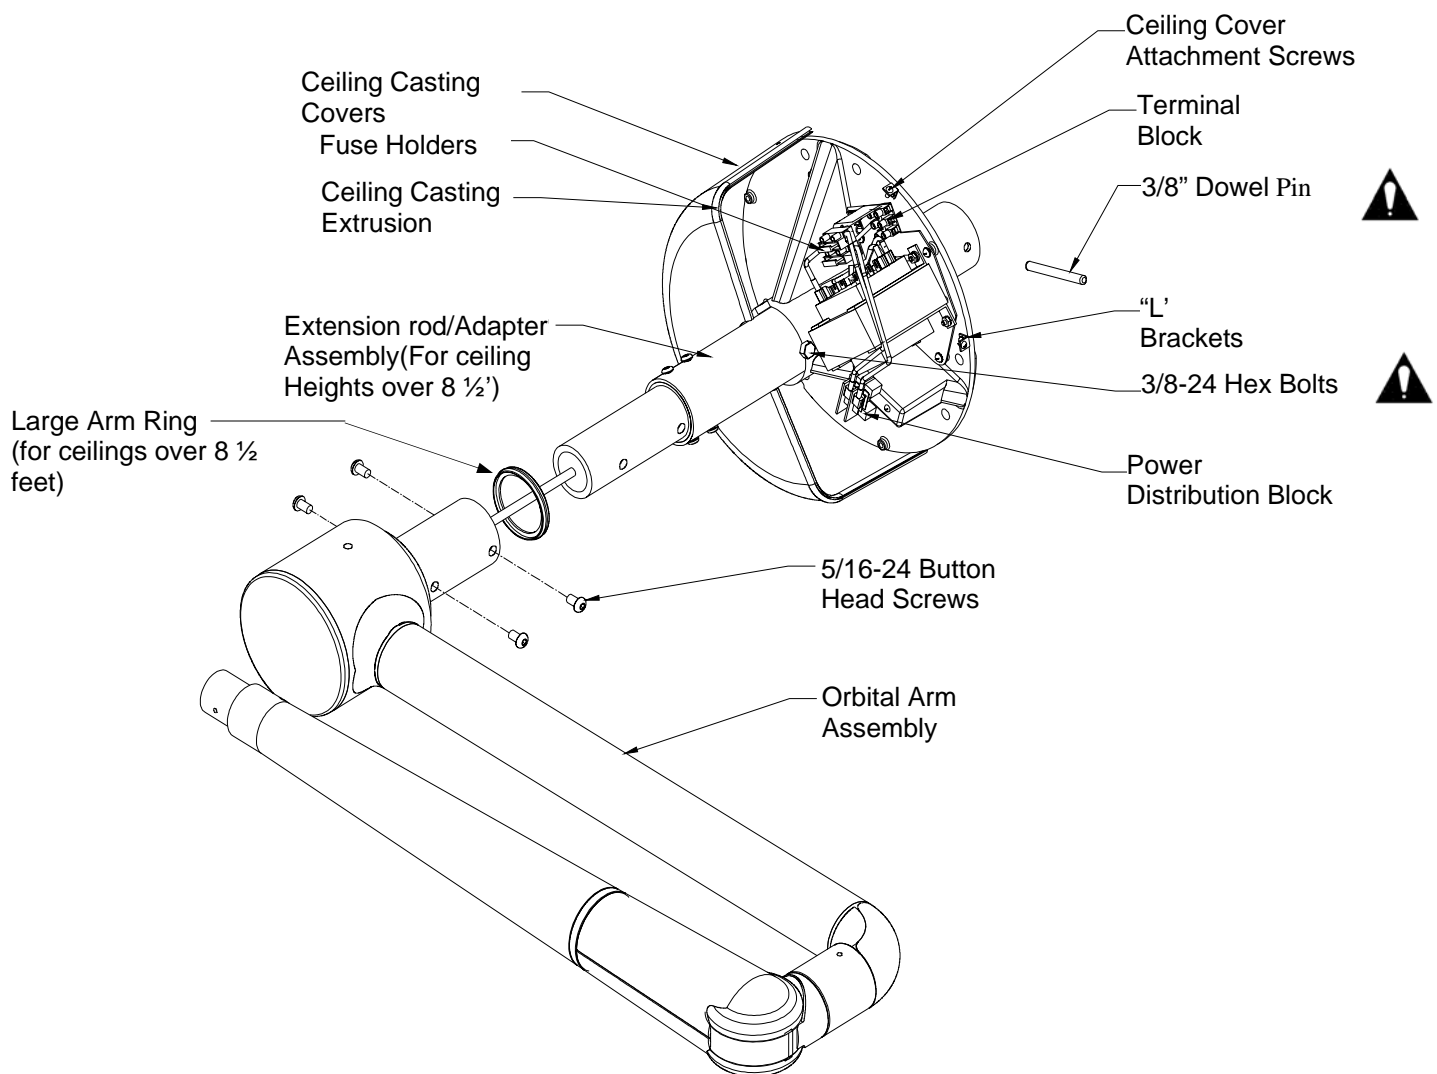

Figure 16-Solo Ceiling Mount (Orbital)
- With the ceiling casting laying on the floor or on a bench, slide the arm assembly into the hole in the ceiling casting in the direction shown in Figure 16. Push the rod through the casting exposing the hole at the end of the rod. Make sure to route the cable from the arm assembly to the ballast assembly.
- With the ceiling casting laying on the floor or on a bench, slide the ceiling extension assembly into the hole in the ceiling casting in the direction shown in Figure 16. Push the rod through the casting exposing the hole at the end of the rod.